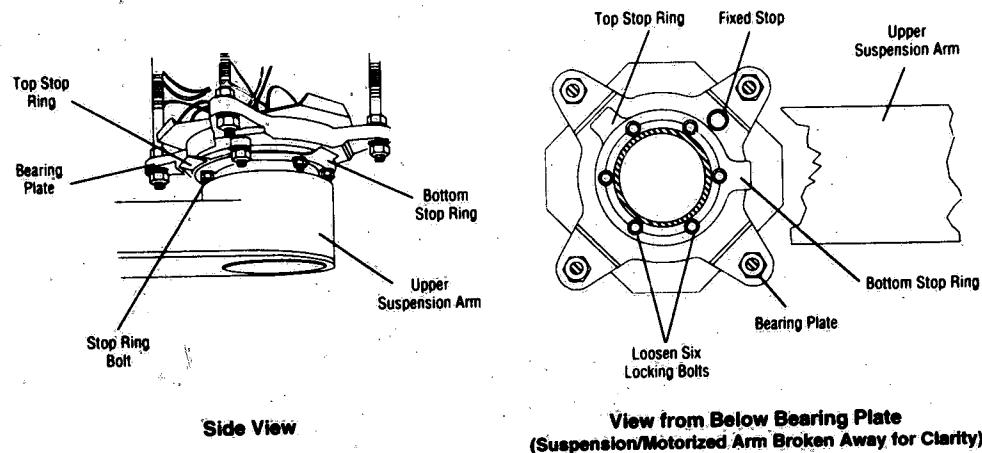

Figure 3-5. External Rotational Stop "B"
There are two variations of rotational stop "B", external stops and internal stops. The external stops (stop rings) are easily visible as shown in Figure 3-5 and can be accessed without removing brake housings. Internal stops require brake housings to be removed for access.
2. Locate external stops and loosen bolts on bottom stop ring (see Figure 3-5).